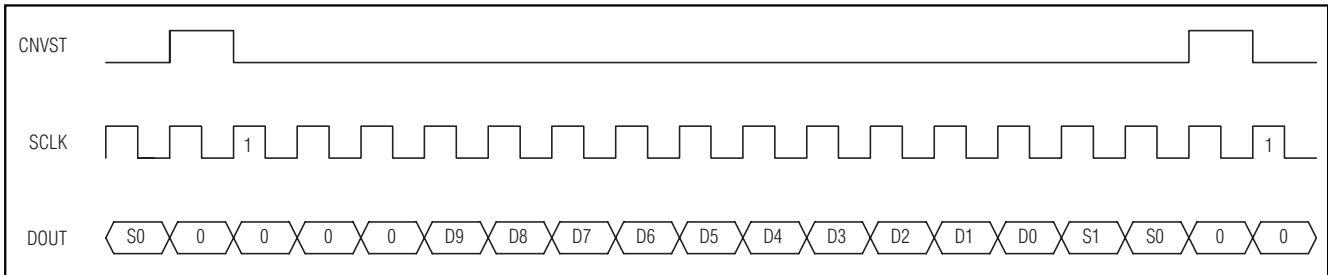

Figure 17. DSP Interface—Continuous Conversion
The MAX1076/MAX1078 can also be connected to the TMS320C54_ by using the data transmit (DX) pin to drive CNVST and the CLKX generated internally to drive SCLK. A pullup resistor is required on the CNVST signal to keep it high when DX goes high impedance and 0001hex should be written to the DXR continuously for continuous conversions. The power-down modes may be entered by writing 00FFhex to the DXR (see Figures 17 and 18).
can be selected to eliminate the need for writing to the transmit-data register more than once. For single conversions, idle CNVST high and pulse it low for the entire conversion. The ADSP21_ _ _ STCTL and SRCTL registers should be configured for late framing (LAFR = 1) and for an active-low frame (LTFS = 1, LRFS = 1) signal. This is also the best way to enter the power-down modes by setting the word length to 8 bits (SLEN = 1001). Connect the VL pin to the ADSP21_ _ _ supply voltage when the MAX1076/MAX1078 are operating with a supply voltage higher than the DSP supply voltage (see Figures 17 and 18).